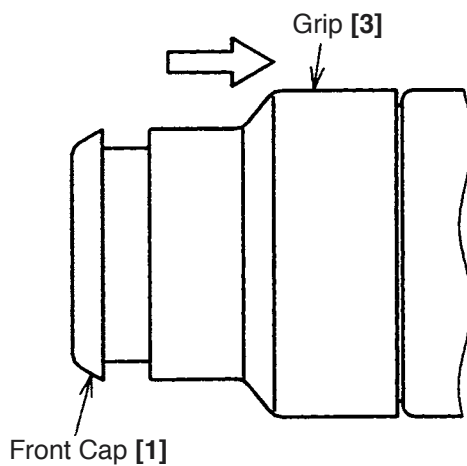
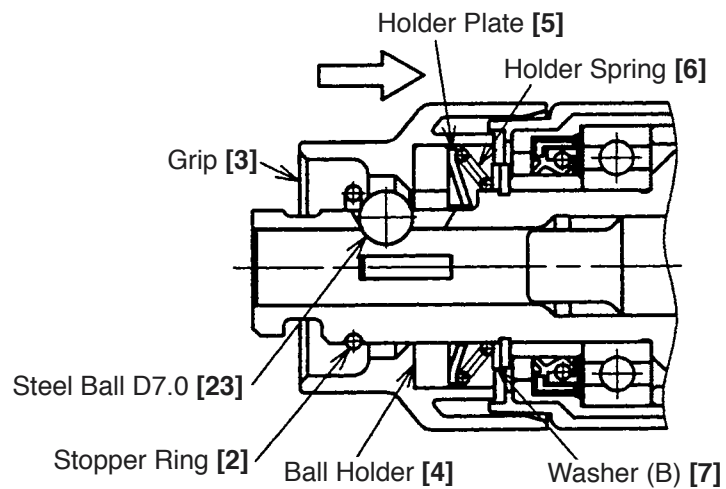

Fig. 16
Fig. 17
(3) Disassembly of the tool retainer
Slide the Grip [3] fully in the arrow direction as shown in Fig. 16 and remove the Front Cap [1]. Pulling the Grip [3] as shown in Fig. 17, remove the Stopper Ring [2] with a retaining ring puller. Then the Grip [3], Ball Holder [4], Steel Ball D7.0 [23], Holder Plate [5], Holder Spring [6] and Washer (B) [7] can be removed from the Cylinder [24].